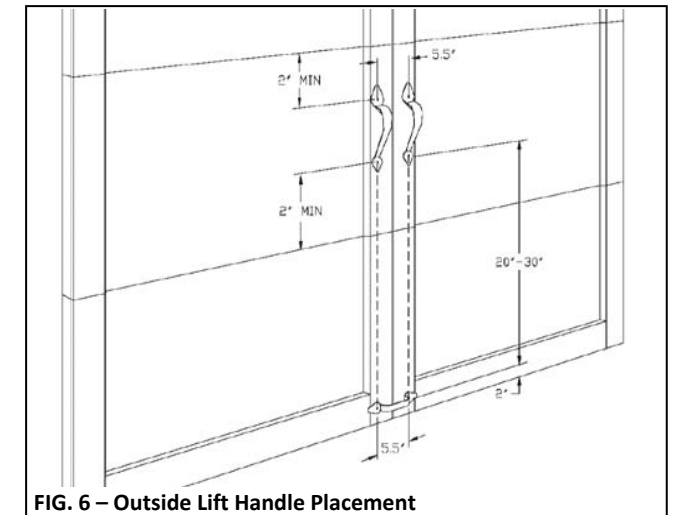

FIG. 6 – Outside Lift Handle Placement
**Step 1:** Center the horizontal ornamental lift handle horizontally on the outside of the bottom door section. Using the handle as a template, mark the holes to be drilled. The holes must be located exactly 2" from the bottom of the section (See Fig. 6).